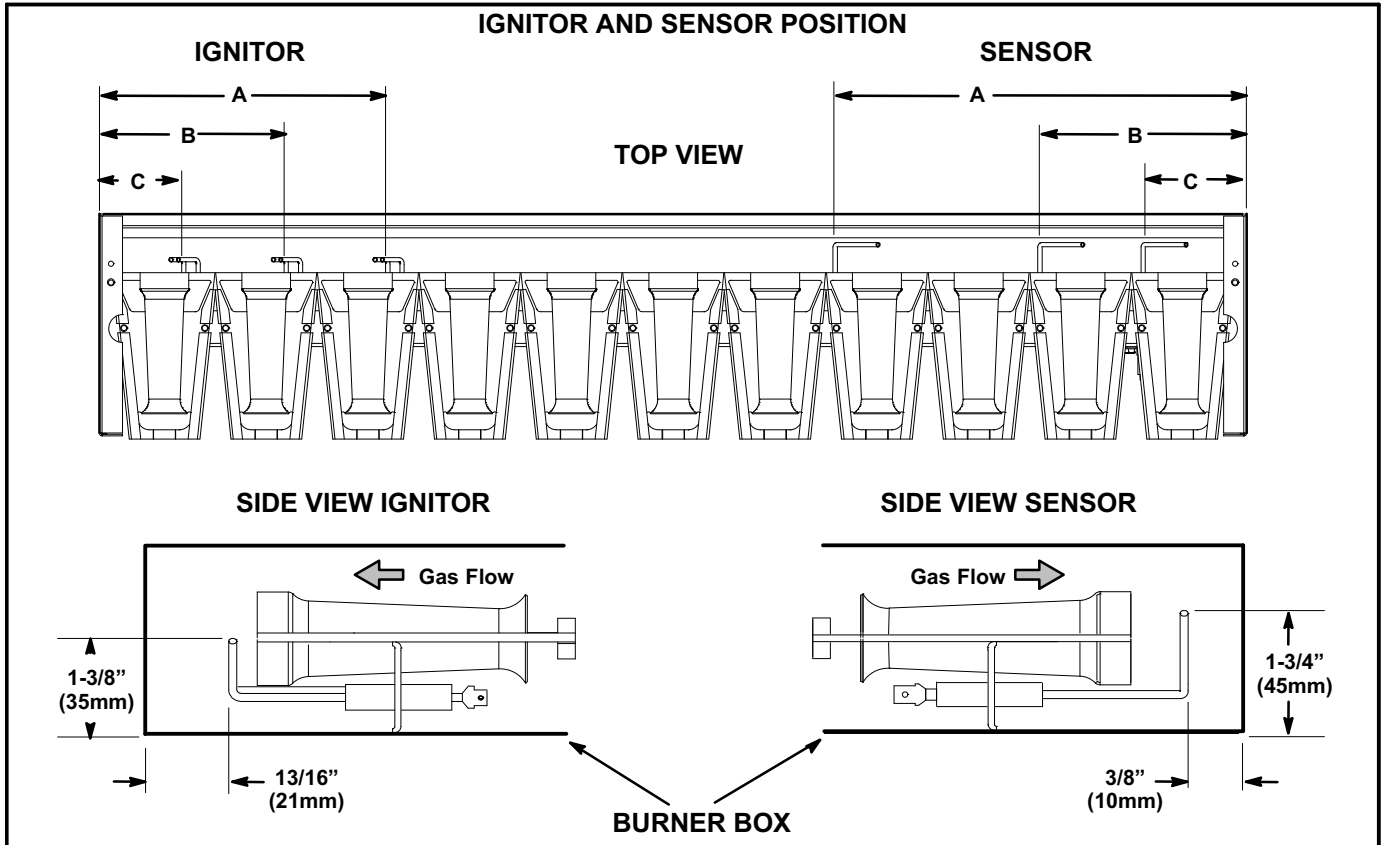

FIGURE 24
- 5- Check the alignment of the ignitor and the sensor as shown in figure 24 and table 11.